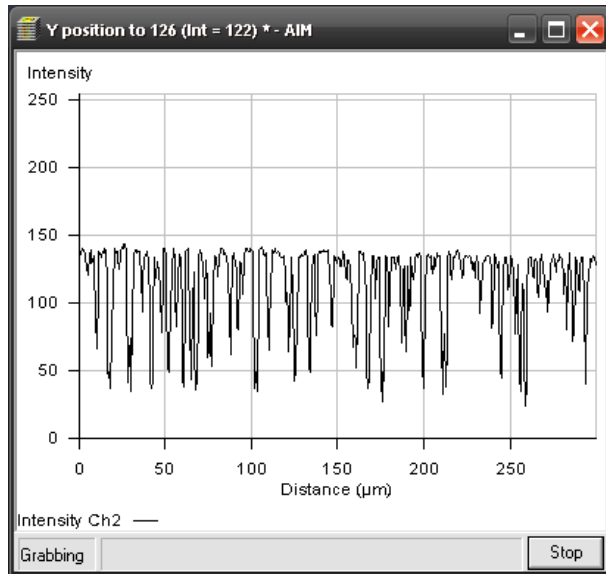

Fig. 5-119 Pinhole adjustment scan window
- Pinhole adjustment will then run automatically and the Scan window will appear (see Fig. 5-119). The adjusting procedure takes approx. 3 min.